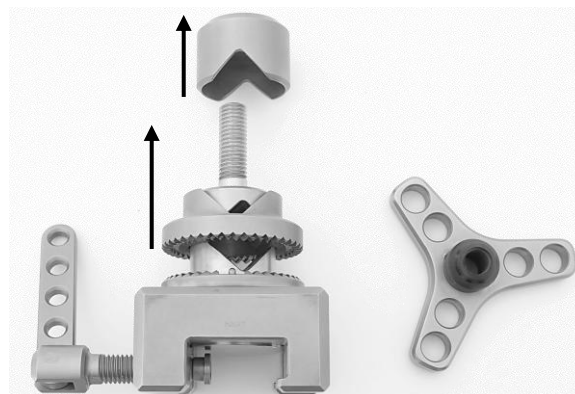

Fig. 17
First, pull the upper part of the clamping jaw (2) off the thread of the base (4), then remove the lower part of the clamping jaw (3) (Fig. 17).